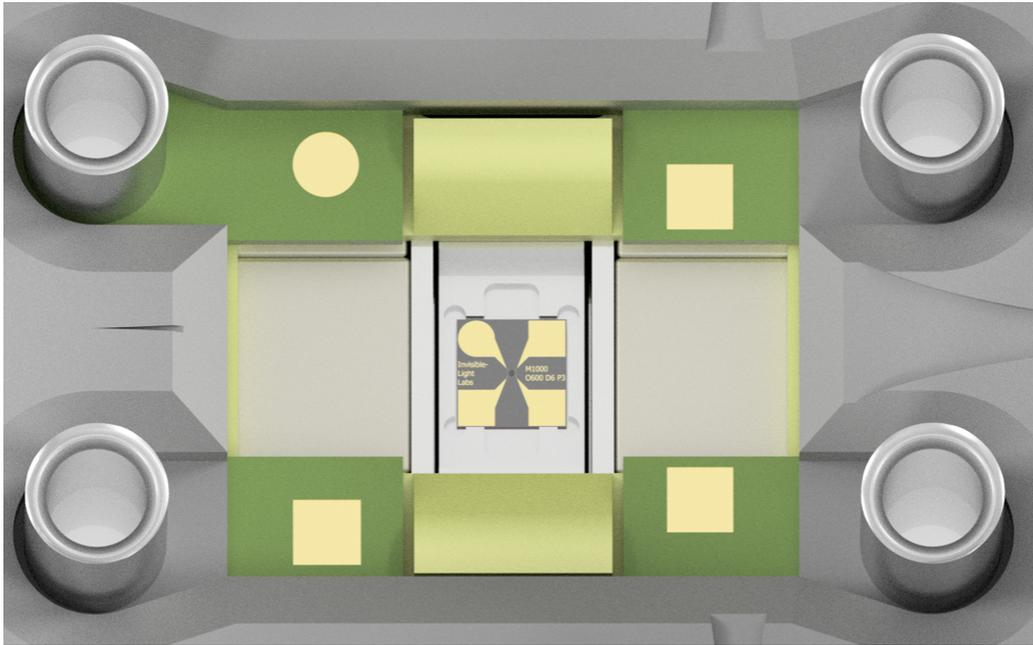

Figure 62: EMILIE™ chip orientation inside the vacuum chamber
- Check the orientation of the chip inside the chamber, and make sure the shape of the electrodes on the EMILIE™ chip matches the shape of the electrodes on the chip holder as shown in Figure 62.